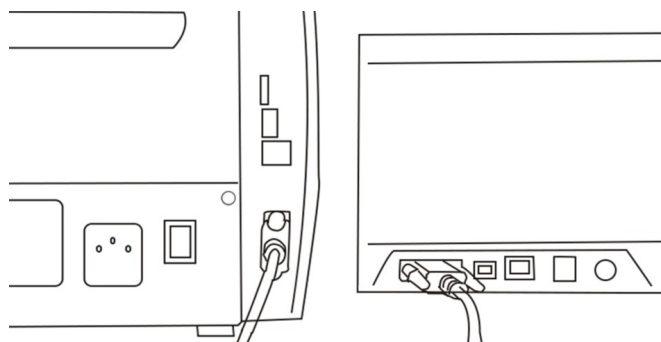

Figure 58
4) Connect the printer power supply. Connect one end of RS232 line in the printer box to the printer and the other end to the machine 232 interface, as shown in Figure 58: